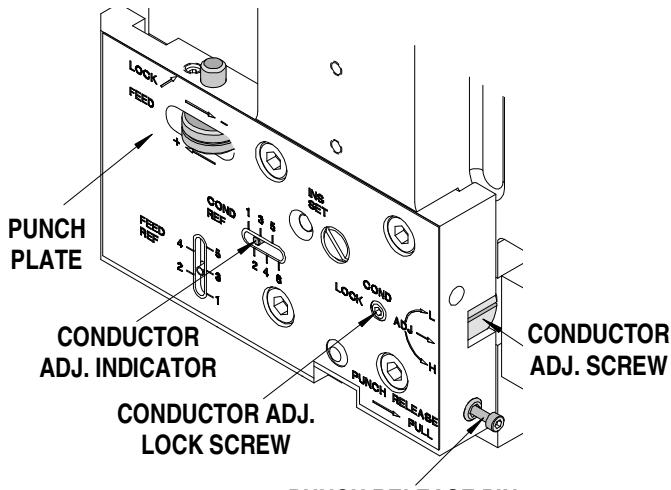

Figure 2-3 PUNCH RELEASE PIN
6. Loosen the M6 conductor adjustment lock screw located on the front of the punch plate. See Figure 2-3.